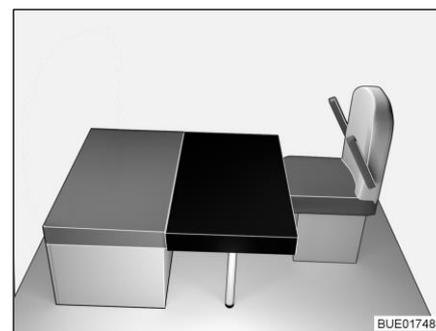

Fig. 161 After conversion
- Place the rectangular additional cushion on the table (in front of the seat cushion of the bench, see Fig. 161). When doing so, the cutout in the additional cushion is located on the frontal supporting wall.